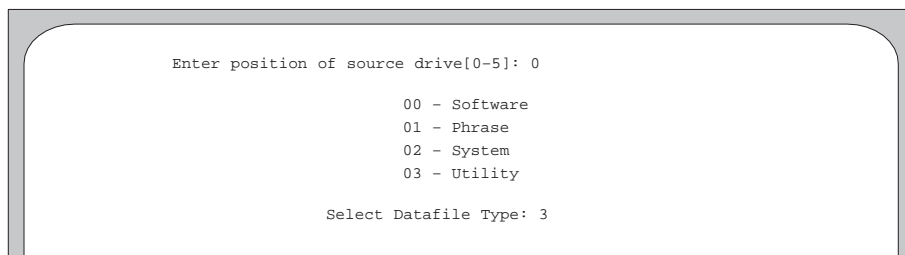

Figure A-25. Example of Screen Showing Datafile Types.
2. At the **Enter position of source drive [0-5]:** prompt, enter the number of the drive from which the record is to be read. The types of datafile records are displayed on the screen, as shown in Figure A-25.
2. At the *Enter drive number [0-5]:* prompt, enter the number of the drive from which to obtain the physical address. The types of datafile records are displayed (Figure A-25).